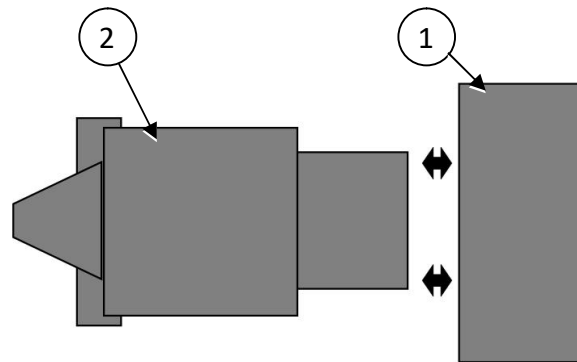

Figure 3.3
Ensure that the Stacking Accumulator, (1), is mounted squarely to the rear of the baler (2) (Figure 3.3). Begin installation procedures with Stacking Accumulator set on a firm, level surface behind the baler. The deck should be evenly spaced behind the baler.